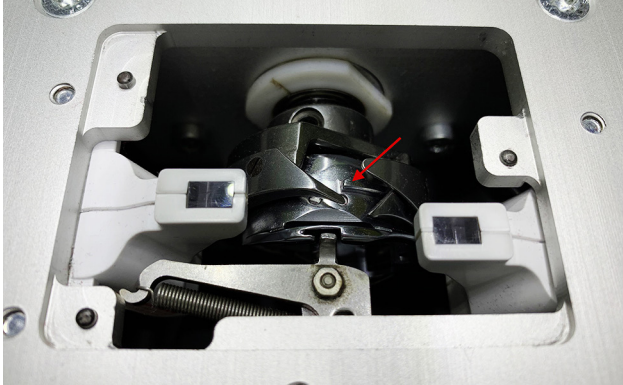

Fig. 5
- Now that the machine is lint free, you can oil it. Press in and turn the front handwheel in the direction of the arrow printed on the side of the machine, moving the hook until you see the ridge to be oiled (Fig. 5).